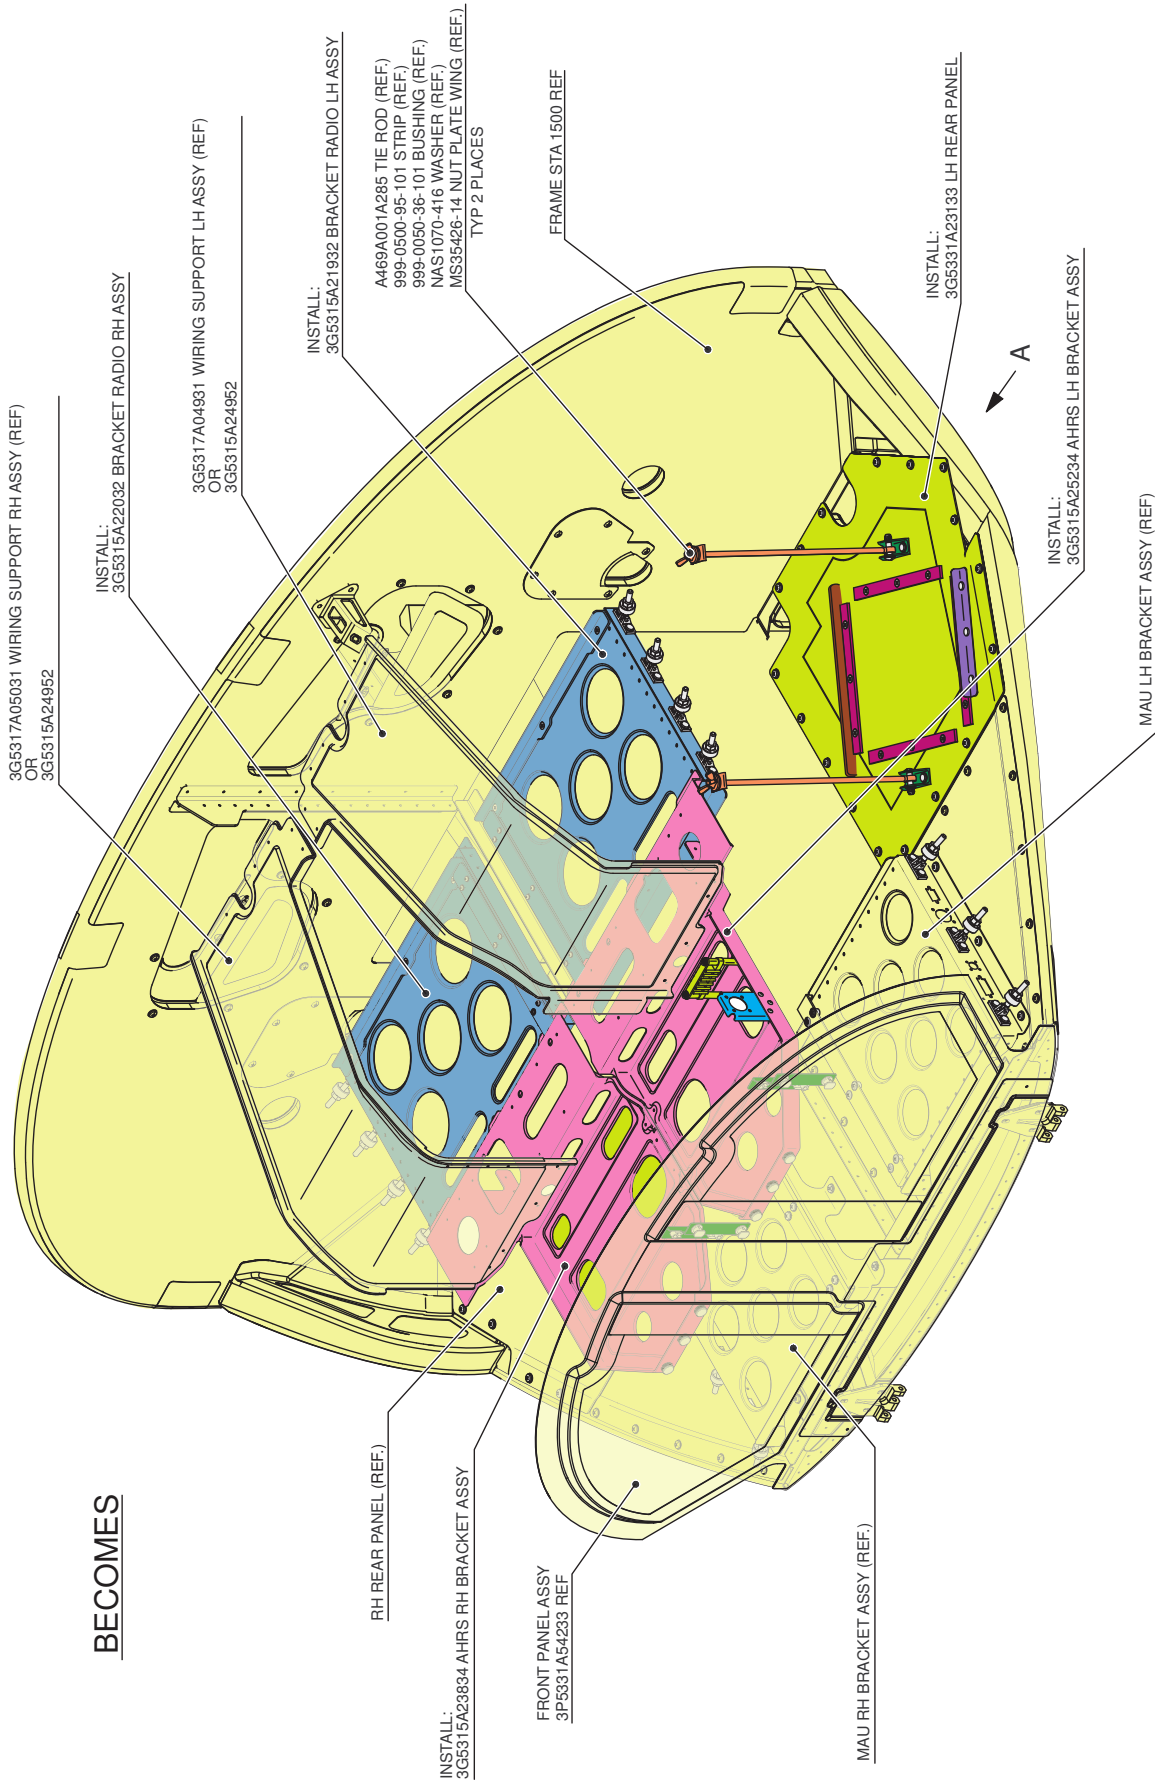

Figure 2
- 18.12 With reference to Figure 2 and Figure 3 section D-D, install the bracket radio LH assy P/N 3G5315A21932 by means of n°6 screws P/N MS27039-1-04 and n°6 washers P/N NAS1149D0332K.
- 18.14 With reference to Figures 2 and Figure 3 section D-D, install the bracket radio RH assy P/N 3G5315A22032 by means of n°6 screws P/N MS27039-1-04 and n°6 washers P/N NAS1149D0332K.
- 18.26 With reference to Figure 2 and Figure 3 view A, section D-D, detail F and Figure 4 section R-R, temporarily locate the AHRS LH bracket assy P/N 3G5315A25234, shims P/N 3G5317A19751 and P/N 3G5317A19851, by means of n°8 screws P/N MS27039-1-08, n°2 screws P/N MS27039-1-09, n°10 washers P/N NAS1149D0332K, n°3 bolts P/N NAS1802-3-6 and n°3 washer P/N NAS1149C0363R.
- 18.27 With reference to Figure 2, temporarily locate the wiring support LH assy P/N 3G5317A04931 or P/N 3G5315A25052 and countermark position of n°4 holes.
- 18.28 With reference to Figure 2 and Figure 3 AHRS bracket view from rear, drill n°4 holes $\varnothing 4.90 \div 5.03$ in previously marked position.
- 18.29 With reference to Figure 2 and Figure 3 AHRS bracket view from rear, install anchor nut P/N MS21072L3 and n°3 anchor nuts P/N MS21069L3 by means of n°8 rivets P/N MS20426AD3.
- 18.30 With reference to Figure 2 and Figure 3 view A, section D-D, detail F and Figure 4 section R-R, install the AHRS LH bracket assy P/N 3G5315A25234, shims P/N 3G5317A19751 and P/N 3G5317A19851, by means of n°3 screws P/N NAS517-3-3, n°8 screws P/N MS27039-1-08, n°2 screws P/N MS27039-1-09, n°10 washers P/N NAS1149D0332K, n°3 bolts P/N NAS1802-3-6 and n°3 washer P/N NAS1149C0363R.
- 18.40 With reference to Figure 2 and Figure 3 view A, section D-D, detail F and Figure 4 section R-R, temporarily locate the AHRS RH bracket assy P/N 3G5315A23834, shims P/N 3G5317A19751 and P/N 3G5317A19851 by means of n°8 screws P/N MS27039-1-08, n°2 screws P/N MS27039-1-09, n°10 washers P/N NAS1149D0332K, n°3 bolts P/N NAS1802-3-6 and n°3 washer P/N NAS1149C0363R.
- 18.41 With reference to Figure 2, temporarily locate the wiring support RH assy P/N 3G5317A05031 or P/N 3G5315A24952 and countermark position of n°4 holes.
- 18.42 With reference to Figure 2 and Figure 3 AHRS bracket view from rear, drill n°4 holes $\varnothing 4.90 \div 5.03$ in previously marked position.
- 18.43 With reference to Figure 2 and Figure 3 AHRS bracket view from rear, install anchor nut P/N MS21072L3 and n°3 anchor nuts P/N MS21069L3 by means of n°8 rivets P/N MS20426AD3.
- 18.44 With reference to Figure 2 and Figure 3 view A, section D-D, detail F and Figure 4 section R-R, install the AHRS RH bracket assy P/N 3G5315A23834, shims P/N 3G5317A19751 and P/N 3G5317A19851 by means of n° 3 screws P/N NAS517-3-3, n°8 screws P/N MS27039-1-08, n°2 screws P/N MS27039-1-09, n°10 washers P/N NAS1149D0332K,
18.46 With reference to Figure 2, install LH rear panel P/N 3G5331A23133 by means of existing hardware previously removed.
18.54 With reference to Figure 2, reinstall n°2 tie rods P/N A469A001A285, n°2 strips P/N 999-0500-95-101, n°2 bushings P/N 999-0050-36-101, n°2 washers P/N NAS1070-416 and n°2 nut plain wings P/N MS35426-14 previously removed by means of n°2 bolts AN24-17, n°4 washers P/N NAS1149D0416J, n°2 nuts P/N MS14145-4 and n°2 cotter pin